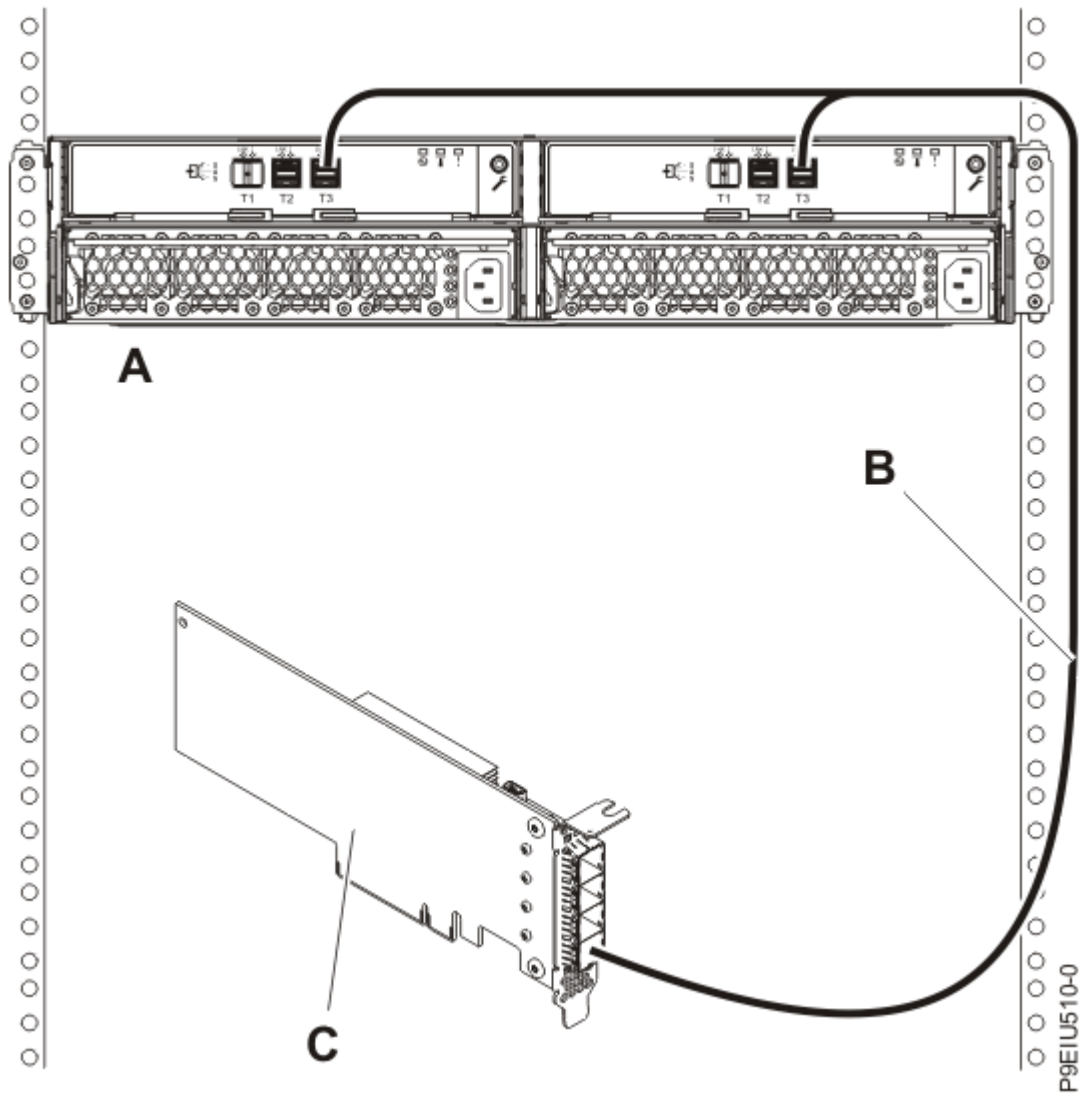

Figure 13. Mode 1 connection of one ESLL or ESLS storage enclosure by using a YO12 cable to a single FC EJ0J, FC EJ0K, or FC EJ0M SAS adapter
13. Then, complete a mode 1 connection of one enclosure **(A)** by using a YO12 cable **(B)** to a single FC EJ0J, FC EJ0K, or FC EJ0M SAS adapter **(C)**, as shown in Figure 13 on page 18 and then continue with “Connecting cables, power cords, and installing covers” on page 29.